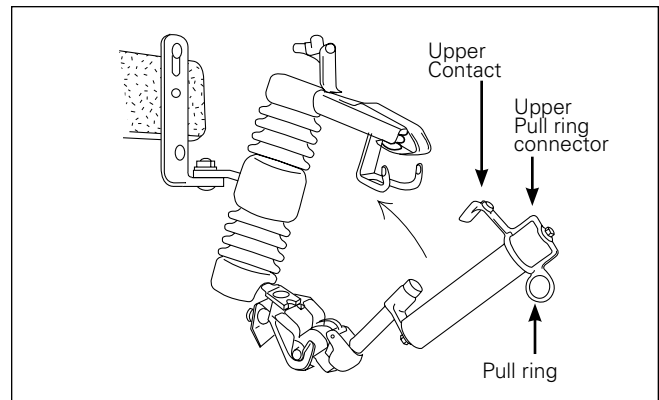

Figure 5. Closing the Tandem ELF fuse into the interchangeable cutout
5. Rotate the Tandem ELF fuse to an intermediate position as in Figure 5.